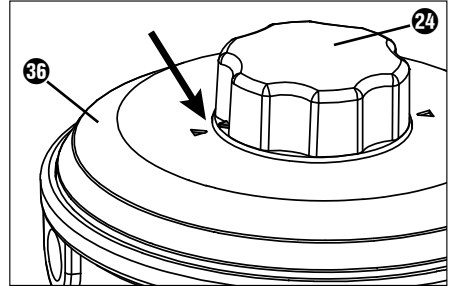

Fig. 1
- ◆ Snap both battery packs  into the motor block  (see Fig. 1).
- 1) Make sure that the two arrows on the cover **36** and on the rotary knob **24** of the line spool **23** point towards each other (see Fig. 1).